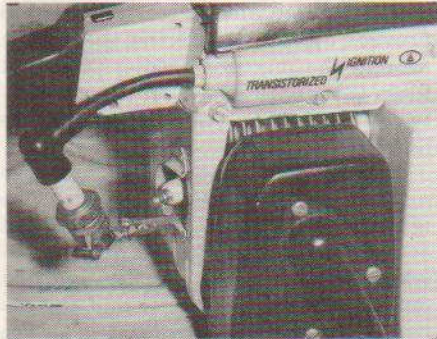

Fig. PR7-6—View of a test plug connected for testing the ignition system.
A Wico Magneto Test Plug (Pioneer Part No. 426814) or equivalent can be used as shown in Fig. PR7-6 to check the overall condition of the ignition. If the test plug does not fire, check the stop switch connection (1—Fig. PR7-7). The lead can be easily shorted against the cylinder and can prevent engine from starting. The stop switch can be checked by disconnecting and insulating the lead as shown at (2).